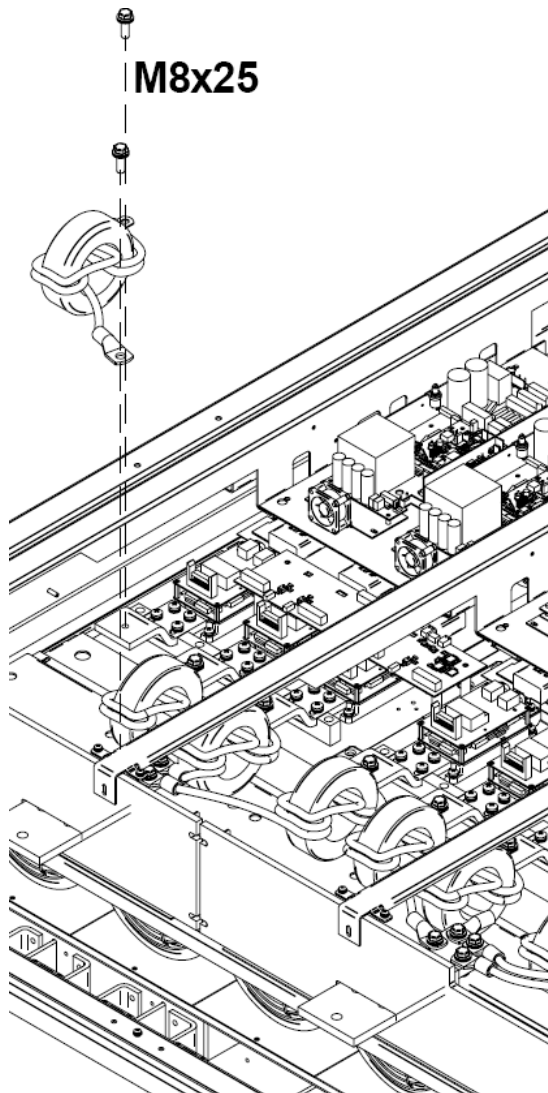

Figure 7.10. Disassembly of the output choke
Follow figure 7.10 while reading these instructions:
- 1) Insert the output choke as it is shown in figure 7.10